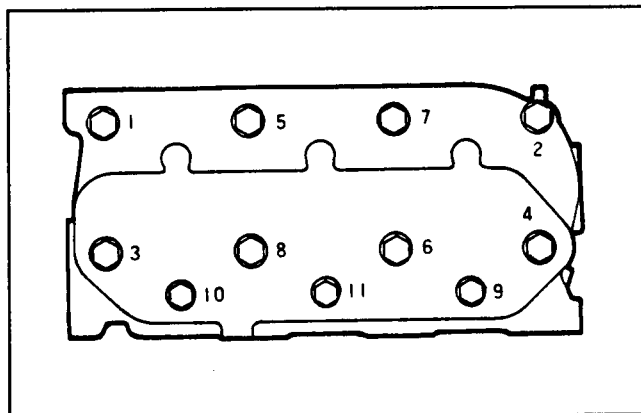

Figure 70b
9. Loosen the cylinder head bolts. Use the sequence shown in Figure 70b. Remove the cylinder head assembly including the intake and exhaust manifolds.